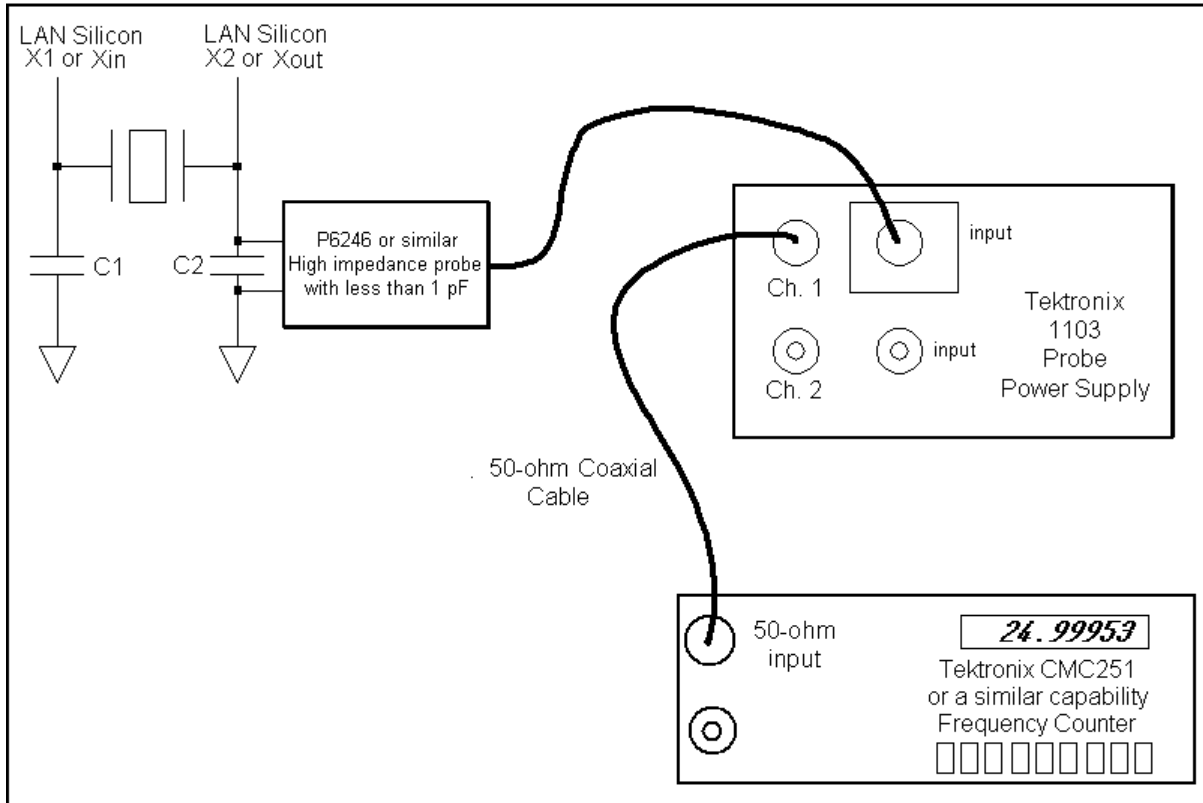

Figure 12. Direct Probing Method
The probe should be connected between the X2 (or Xout) pin of the LAN device and a nearby ground. Typically, it is possible to connect the probe pins across one of the discrete load capacitors (C2 in Figure 12).
2. Connect the test equipment as shown in Figure 12.